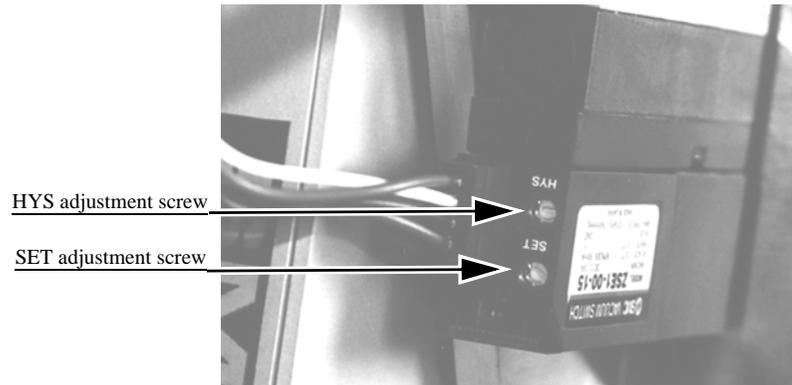

Figure 5-34—Apply Vacuum switch UP
- 1a) On the PLC Controller, turn the **Apply Vacuum** switch to the **ON** (up) position. See *Figure 5-34*.